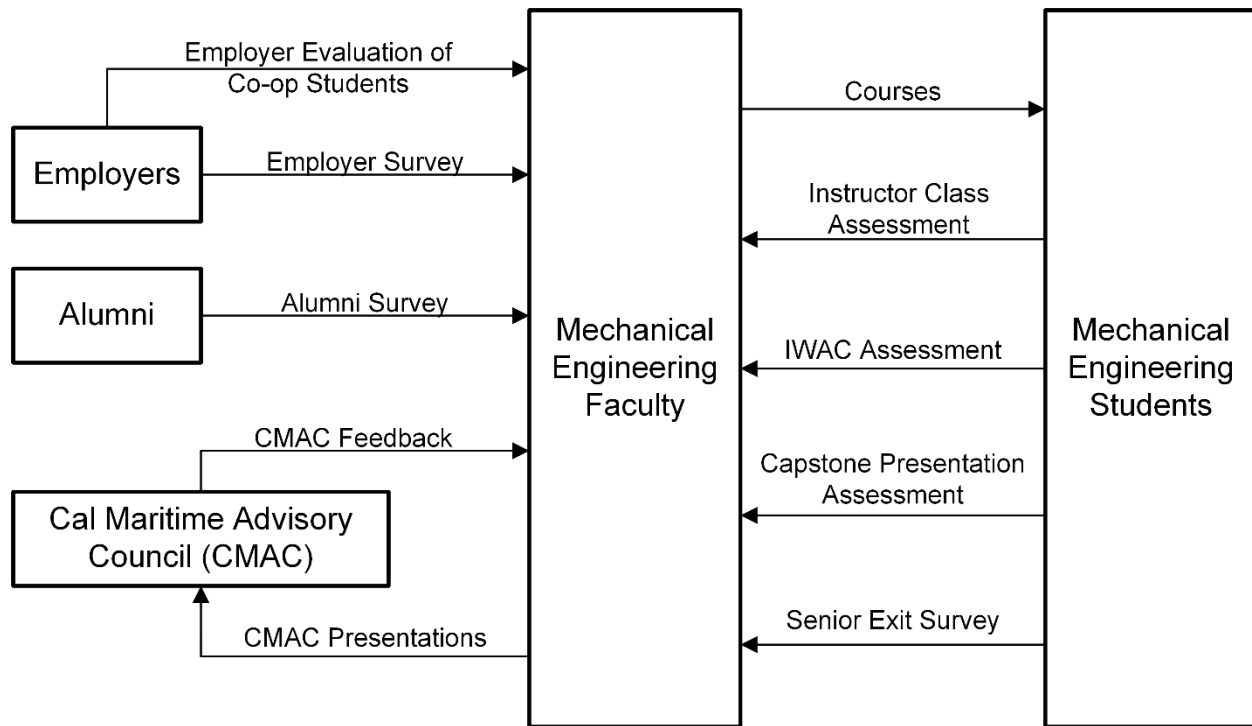

Figure 4.1 Flow chart of the feedback mechanisms utilized by the Mechanical Engineering program as a part of its continuous improvement process.
The Mechanical Engineering program at Cal Maritime has a strong data-driven process to assess the Student Outcomes (SO). The primary reference for the process is the Assessment System Manual, available to reviewers at the visit. The main points are summarized here, as well as the results of the assessment since the last ABET report. The ME department uses many sources of data for the continuous improvement process, both direct methods (rubric-based assessment of artifacts of student learning) and indirect methods (generally a survey or self-assessment). The processes are listed in Table 4.1 and discussed in detail in the next section. The overall flow of assessment information can be seen in Figure 4.1, illustrating the bodies from which the assessment data is drawn. The evaluation of the assessment data is carried out primarily by the faculty. Based on the data, they may recommend changes to the curriculum or changes to the assessment process. The results of the assessments during this period have generally met the benchmarks leading to no major changes within the program. However, the program has used the data to identify areas of improvement, both in the classroom and in the assessment process itself, which will be discussed later in this criterion.